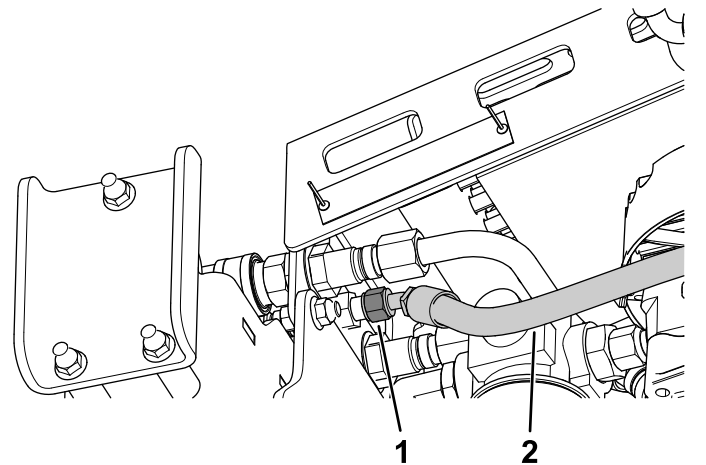

Figure 4
4. Secure the hose assembly to the bulkhead fitting (Figure 4).